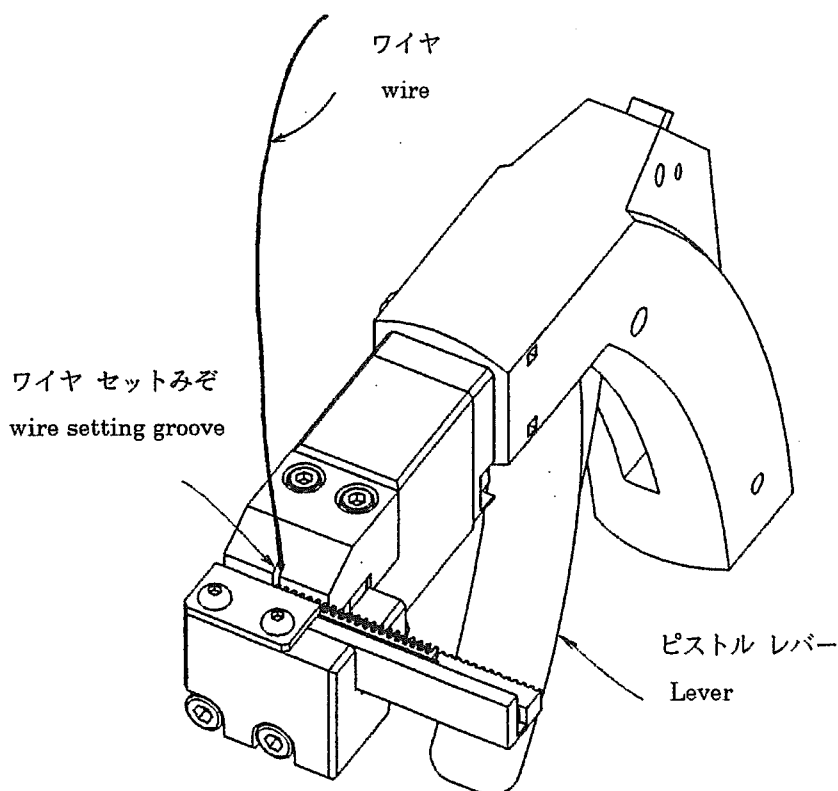

Fig.5
(Fig.5)
- 4) Insert a wire into the wire setting groove until the wire end touches the end of the tool. Then squeeze the pistol lever. (Fig.5)